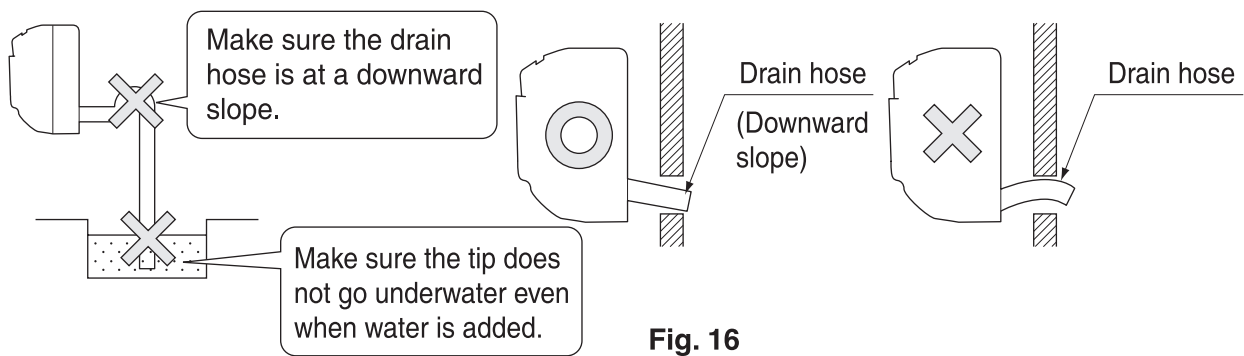

Fig. 16
(1) Install the drain piping. (Refer to Fig. 16)
- Watch out for the points in the **Fig. 16** when performing drain work.